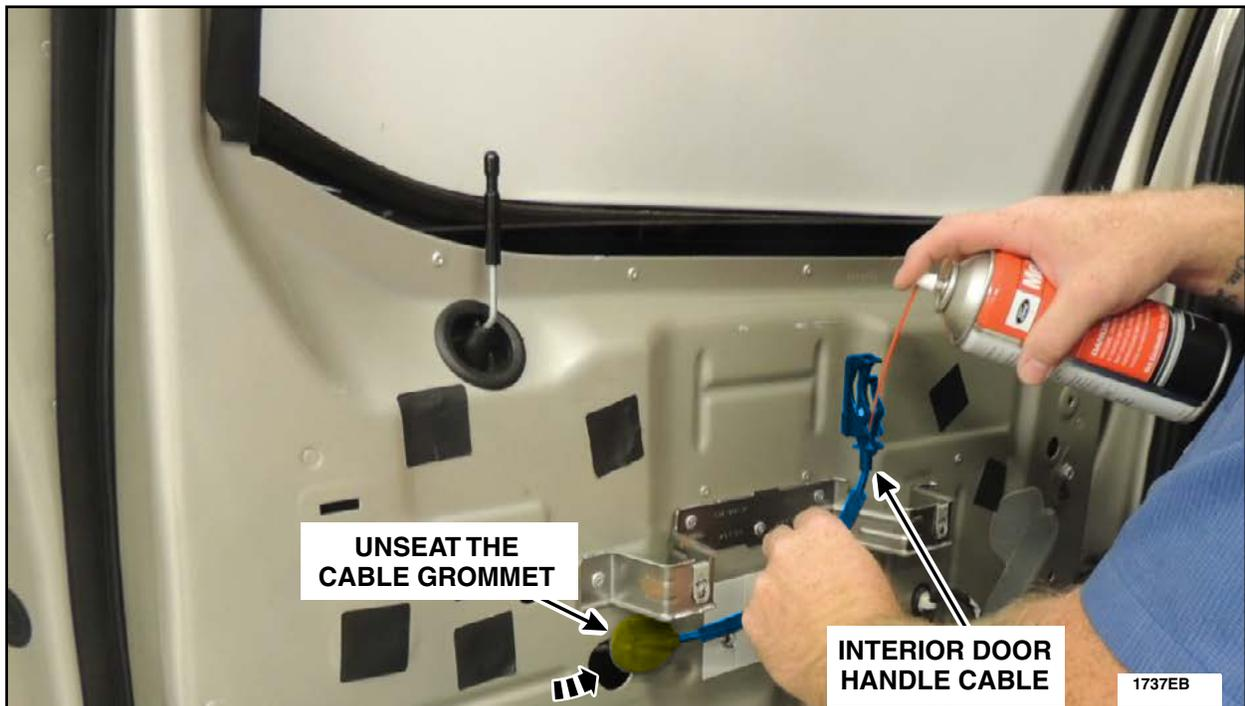

FIGURE 89
14. Unseat the interior door handle cable rubber grommet and while holding the end of the interior door handle cable in an upward position, spray Motorcraft® XL-6 Lubricant for five seconds down into the cable. See Figure 89.